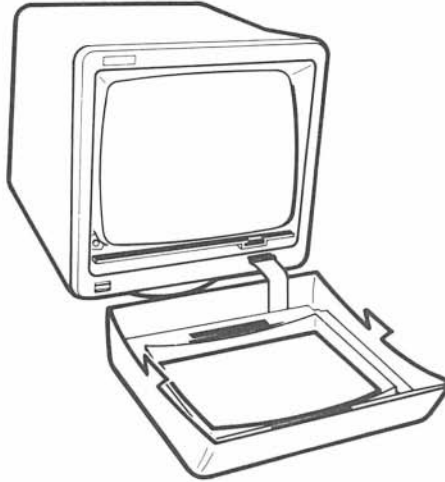

Figure 10-3. Aligning HP Touch plug with monitor socket.
4. Place HP Touch flat on the table in front of the monitor so that the plug on the end of the HP Touch ribbon cable lines up with the socket on your monitor (Figure 10-3).